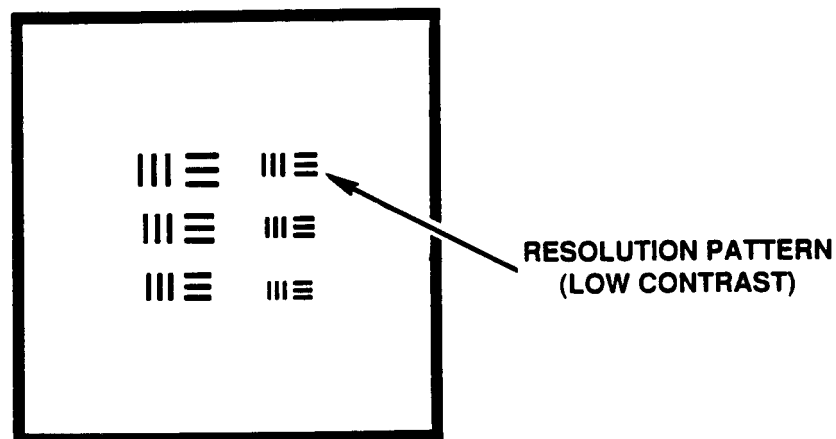

Figure 2-12A. TS-3895/UV Low-Light Resolution Test Pattern.
9. The resolution test patterns are three horizontal lines and three vertical lines (fig. 2-12A and 2-12B). You must be able to distinguish all three horizontal lines and all three vertical lines and the space between the lines to count seeing the group. On the TS-3895/UV, you must be able to see the four largest groups for the NVG to pass. On the TS-3895A/UV, you must be able to see Group 3 on the bottom of the test pattern for the NVG to pass.